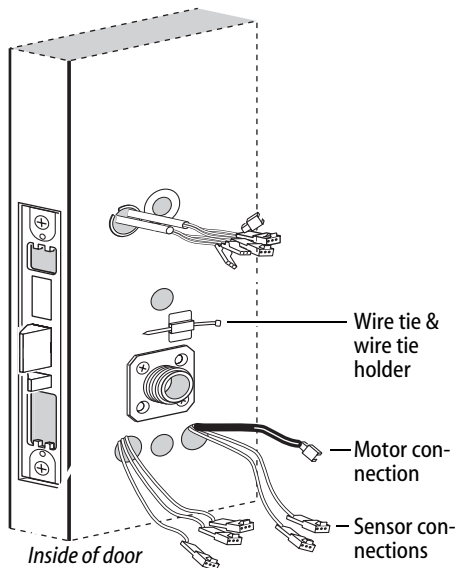

Figure 12a Using the wire tie and wire tie holder to manage the connections
- 1 Affix the wire tie holder and insert the wire tie as shown in Figure 12a.